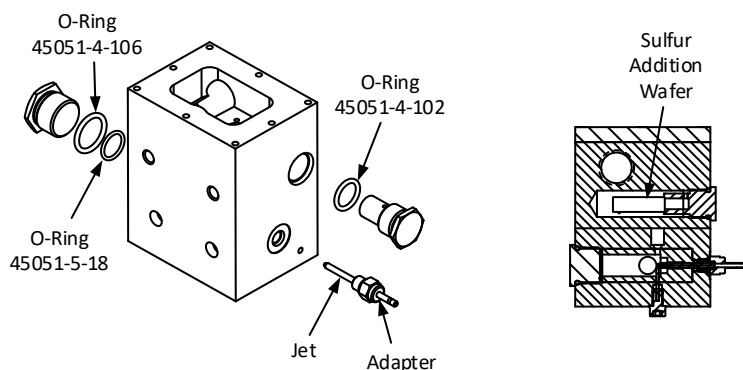

Fig. 8.15. Burner Block Components
8.5.6 Burner block components (see Figure 8.15)